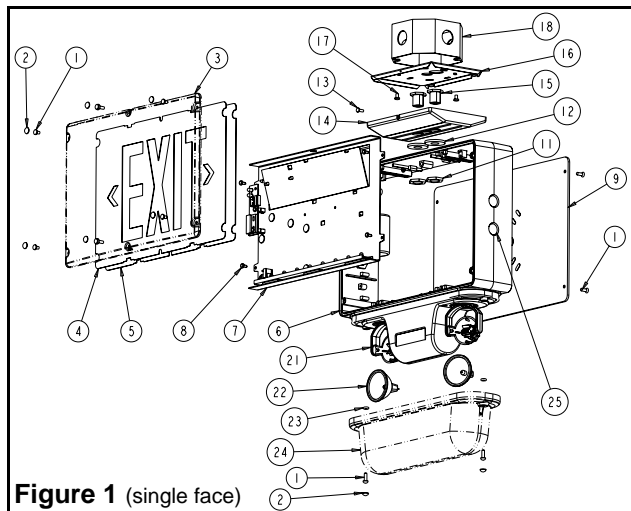

Figure 1 (single face)
- e. Make sure the securement screw is accessible (see fig.1 & 2 part # 13). Use existing screws in junction box to secure canopy backplate to the junction box.
- h. Determine which holes in the exit frame will be used for mounting (see fig.1,2 & 5). Support frame by two blocks of wood, maximum one inch apart. Strike knockouts with a hammer and screwdriver. Clear holes of burrs to allow proper assembly of nipple/wire assembly.
Screw and knock-out covers (See fig. 1&2 part 2&25) are available in the hardware kit. These covers can be installed on screws and knock-out to avoid any food accumulation. Note: some detergent used in food processing industry can affect durability of Polycarbonate lens.